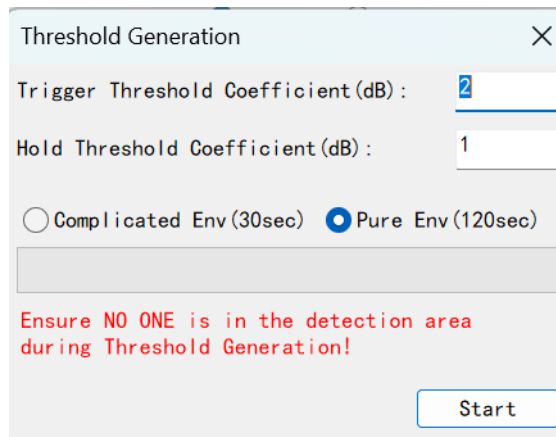

Figure 4-3 Threshold Generation Dialog
Step 1: After connecting the XenD106L with the visualization tool, click the **"Gen. Thresholds"** button on the **"View/Set Param."** page; a Threshold Generation window as shown in Figure 4-3 Threshold Generation Dialog will pop up.